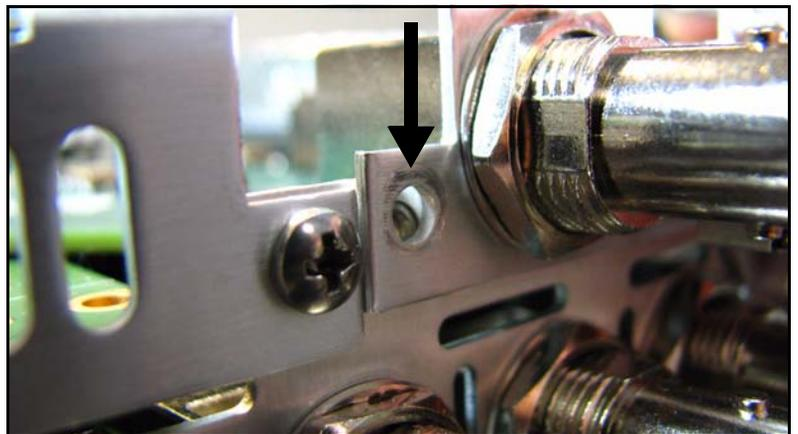

Figure C-19. Aligning the Back Panel
6. Align the left screw hole in the back panel (Figure C-19).